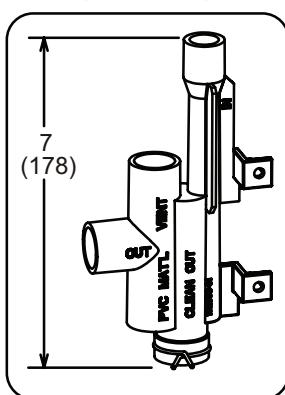

Figure 44. Trap / Drain Assembly Using 1/2" PVC or 3/4" PVC Cold End Header Box with 1/2 Drain Connection
5. On field-supplied terminations for side wall exit, exhaust piping may extend a maximum of 12 inches (305MM) for 2" PVC and 20 inches (508MM) for 3" (76MM) PVC beyond the outside wall. Intake piping should be as short as possible. See Figure 44.
2. For furnaces with a 1/2" drain connection use a 3/8 allen wrench and remove plug (Figure 44) from the cold end header box at the appropriate location on the side of the unit. Install field-provided 1/2 NPT male fitting into cold end header box. For furnaces with a 3/4" drain connection use a large flat head screw driver or a 1/2" drive socket extension and remove plug. Install provided 3/4 NPT street elbow fitting into cold end header box. Use Teflon tape or appropriate pipe dope. (Figure 43)
3. Install the cap over the clean out opening at the base of the trap. Secure with clamp. See Figure 43 and Figure 44.
4. Install drain trap using appropriate PVC fittings, glue all joints. Glue the provided drain trap as shown in Figure 43 or Figure 44. Route the condensate line to an open drain.